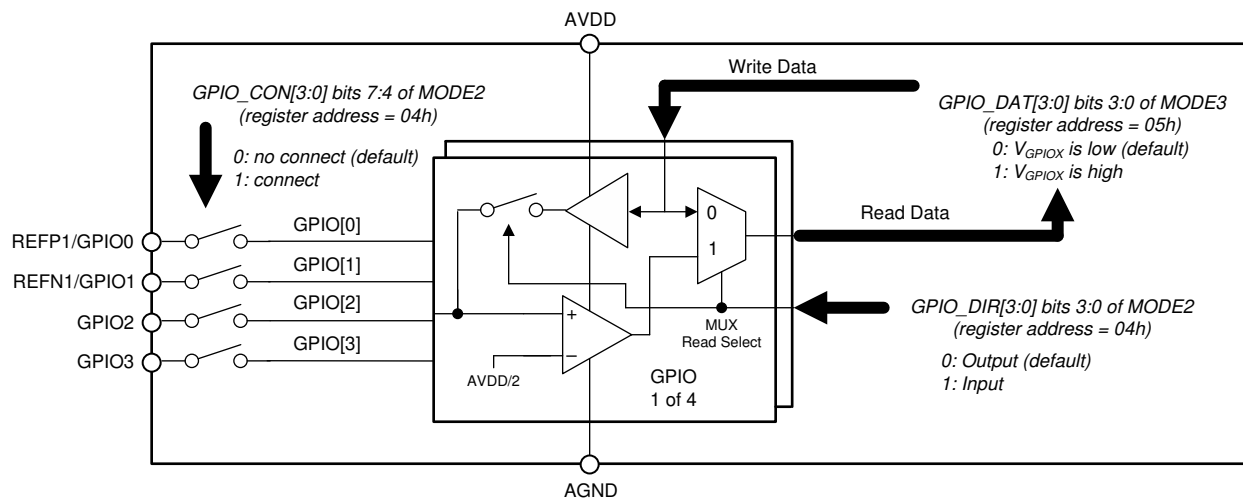

图 64. GPIO Block Diagram
The ADC provides four GPIO pins (GPIO0 through GPIO4). The GPIO are digital inputs and outputs with logic values that are read and written by the GPIO_DAT bits of the **MODE3** register. Two GPIOs are available on dedicated pins and two GPIOs are multiplexed functions with an external reference (REFP1 and REFN1). The GPIO input and output levels are referred to AVDD and AGND. As **图 64** shows, the input threshold value is $AVDD / 2$ (typical). The GPIO_CON[3:0] bits set the GPIO connection to the designated pin (1 = connected). The GPIO_DIR bits program the direction of the GPIO as an input (1) or output (0). The GPIO_DAT[3:0] bits are the data values for the GPIO. If a GPIO pin is programmed as an output, the value read is the register data previously written.